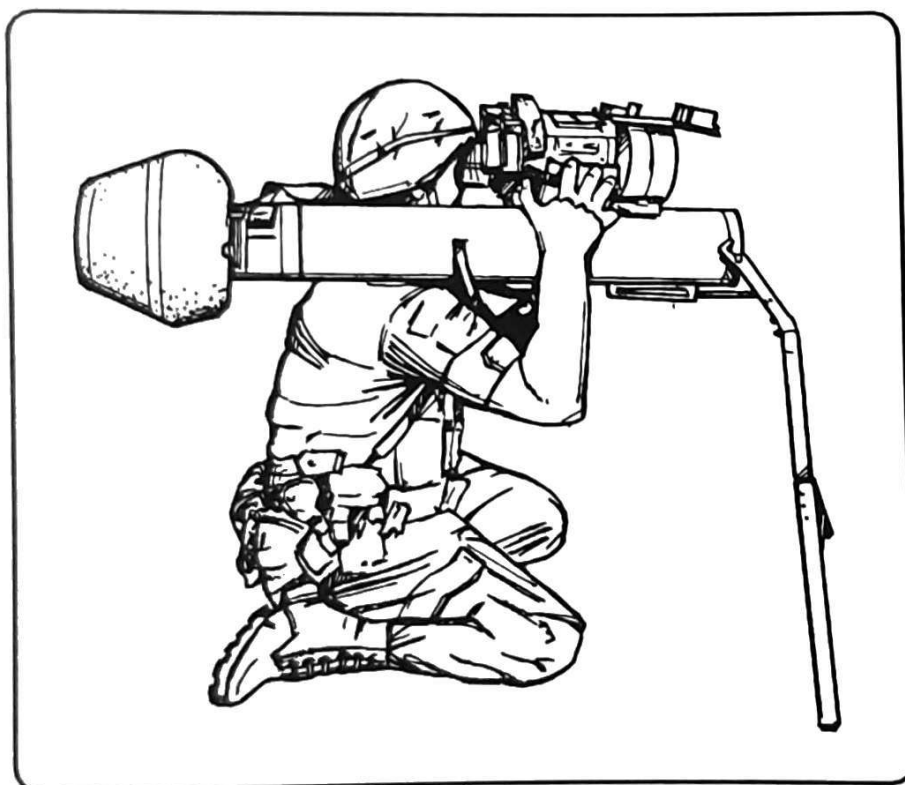
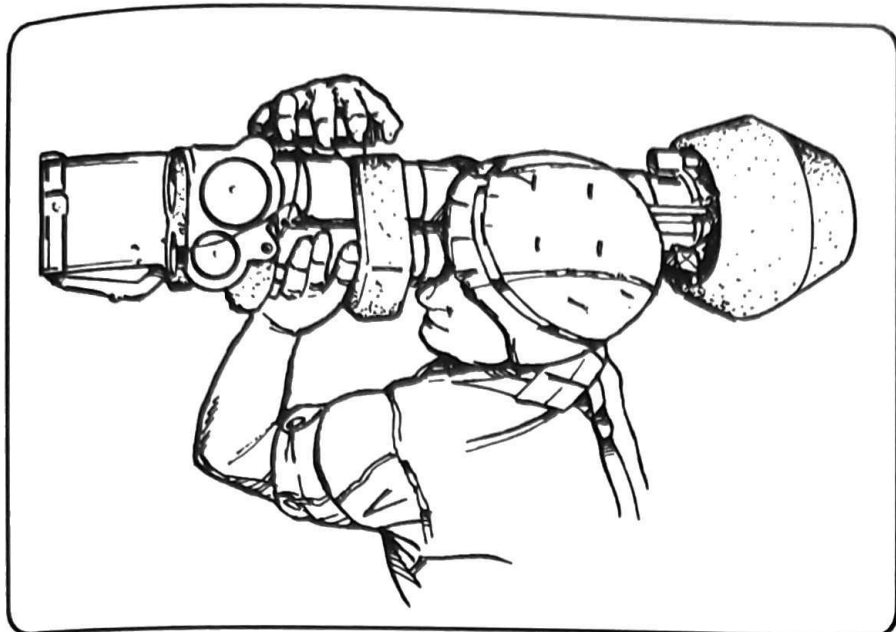

Figure 7-4 . Kneeling position.
Figure 7-5. Correct eye and hand positions.
c. **Kneeling Position.** Demonstrate the position, then have the soldiers assume it (Figure 7-4).
(1) Kneel on both knees and spread them a comfortable distance apart. Position the bipod so that you have to lean forward to position the eye in the eye guard.
(2) Grasp the tracker as previously described. Maintain the same upper body position as in the other firing positions. Place the round on the shoulder muscle, keeping it tight against the neck (Figure 7-5).
(3) As the buttocks are lowered to the heels, take the slack out of the bipod. Try to sit on the heels to provide a stable platform for firing.